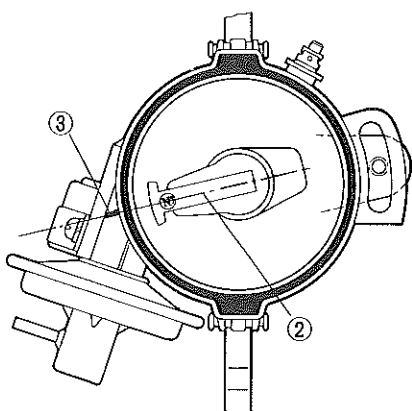

Fig. 4-145
The distributor takes its mounted position correctly only when it is inserted into the gear case under a specific condition. The condition is this: Turn over crankshaft to locate the piston at B.T.D.C. 7° (No. 1 Piston being compression stroke), and insert the distributor into the case, with center ② of distributor rotor lined up with embossed mark ③ of distributor housing, as shown in Fig. 4-145.